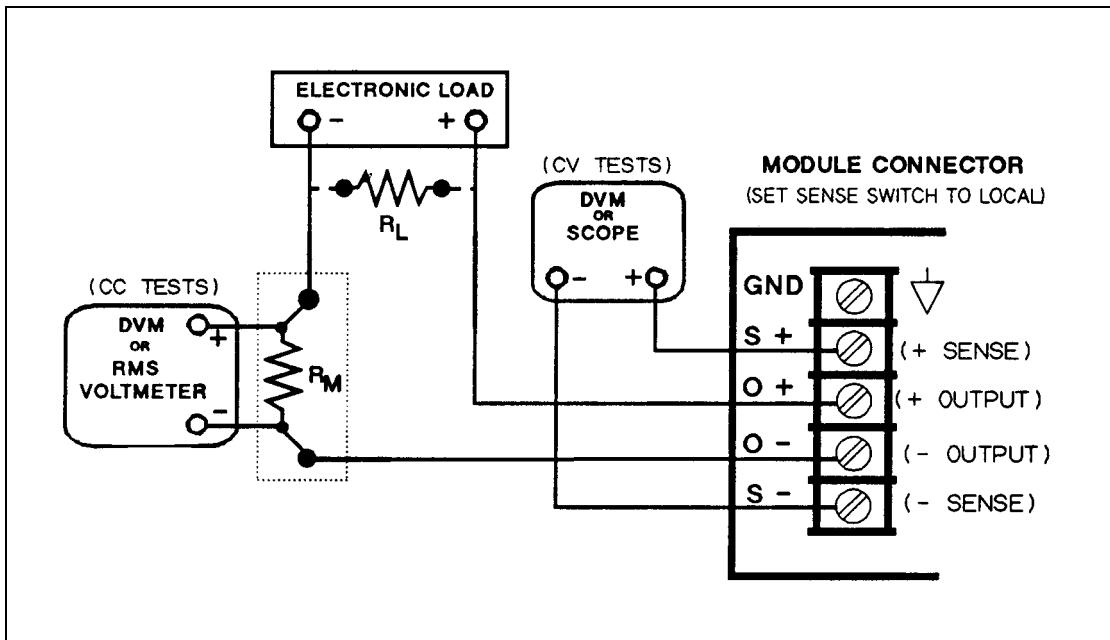

Figure 2-1. Performance Test Setup
To eliminate output current measurement error caused by voltage drops in the leads and connections, connect the current monitoring resistor between the output and the load as a four-terminal device (see R_M in Figure 2-1). Connect the current monitoring leads inside the load lead connections directly at the monitoring points on the resistor element.
1. Turn off the power module and connect a digital voltmeter between the + S and - S terminals (see Figure 2-1).
1. Turn off the module and connect the output as shown in Figure 2-1 with the DVM connected between the + S and - S terminals.
6. The difference between the DVM readings in steps (4) and (5) is the load effect voltage and should not exceed the value listed in the Performance Test Record Tables under CV LOAD EFFECT, for the model being tested.
2. Connect the output as shown in Figure 2-1 with the DVM connected between the + S and - S terminals. Set the transformer to nominal line voltage (either 115Vac or 230Vac).
9. The difference between the DVM readings in steps (6) and (8) is the source effect voltage and should not exceed the value listed in the Performance Test Record Tables under **CV SOURCE EFFECT**, for the model being tested.
1. Turn off the module and connect the output as shown in Figure 2-1 to an oscilloscope (ac coupled) between the + and - terminals. Set the oscilloscope's bandwidth limit to 20MHz (30MHz on the Keysight 54504A) and use an RF tip on the oscilloscope probe.
1. Turn off the module and connect the output as shown in Figure 2-1 with the oscilloscope across the + S and -S terminals.
1. Turn off the module and connect the output to be tested as shown in Figure 2-1 with the voltmeter connected across the current monitoring resistor.